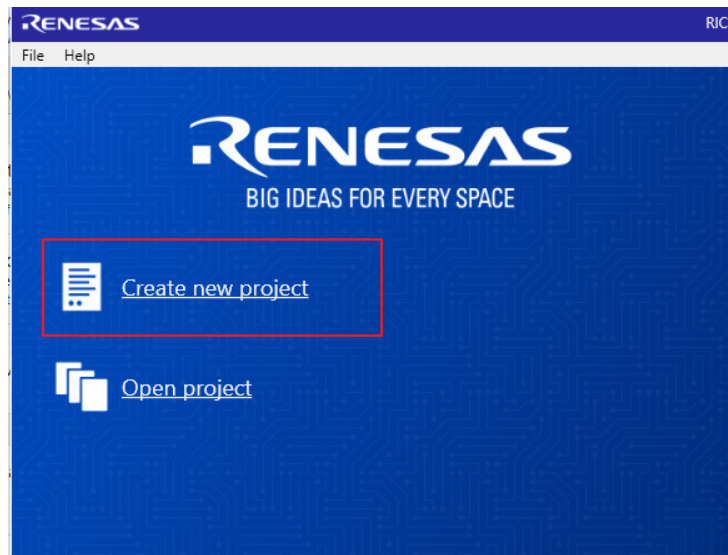

Figure 13. Create New Project in RICBox
1. Click *Start* > *RICBox* to open the initial RICBox window (see Figure 13).